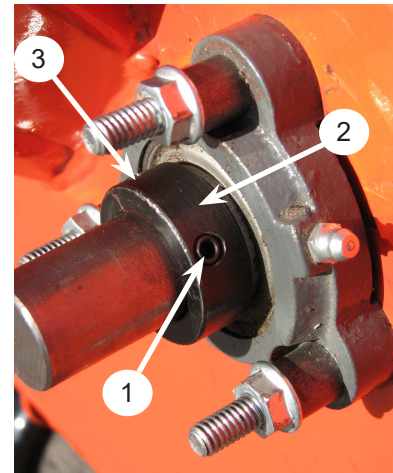

Figure 5.6, Rotor Bearing
2. Loosen the set screws (1) holding the lock collars (2) on the rotor bearings.
3. Use a punch and hammer in punch hole (3) to tap the lock collars in the opposite direction of normal rotation (Figure 5.6).